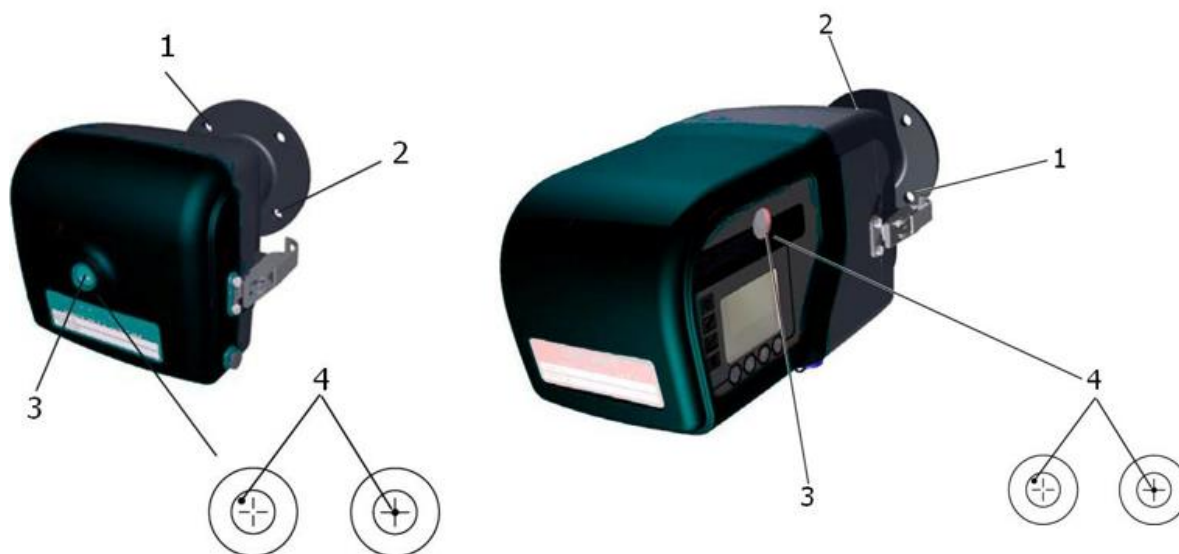

Figure 15: Aligning the Retro-reflector.
4. Observe the alignment target through the window (3). A bright green spot (4) should be visible.
6. To move the green spot horizontally, adjust the M10 nut (1) on the air purge flange and to move it vertically, adjust the M10 nut (2), also on the air purge flange as illustrated in Figure 15. Adjust these nuts until the green spot is central in the inner circle.
1. Observe the alignment target through the window (3). A bright green spot (4) should be visible.
2. To move the green spot horizontally, adjust M10 nut (1) on the air purge flange and to move it vertically, adjust the M10 nuts (2), also on the air purge flange as illustrated in **Figure 15**. Adjust these nuts until the green spot is inside the inner circle.